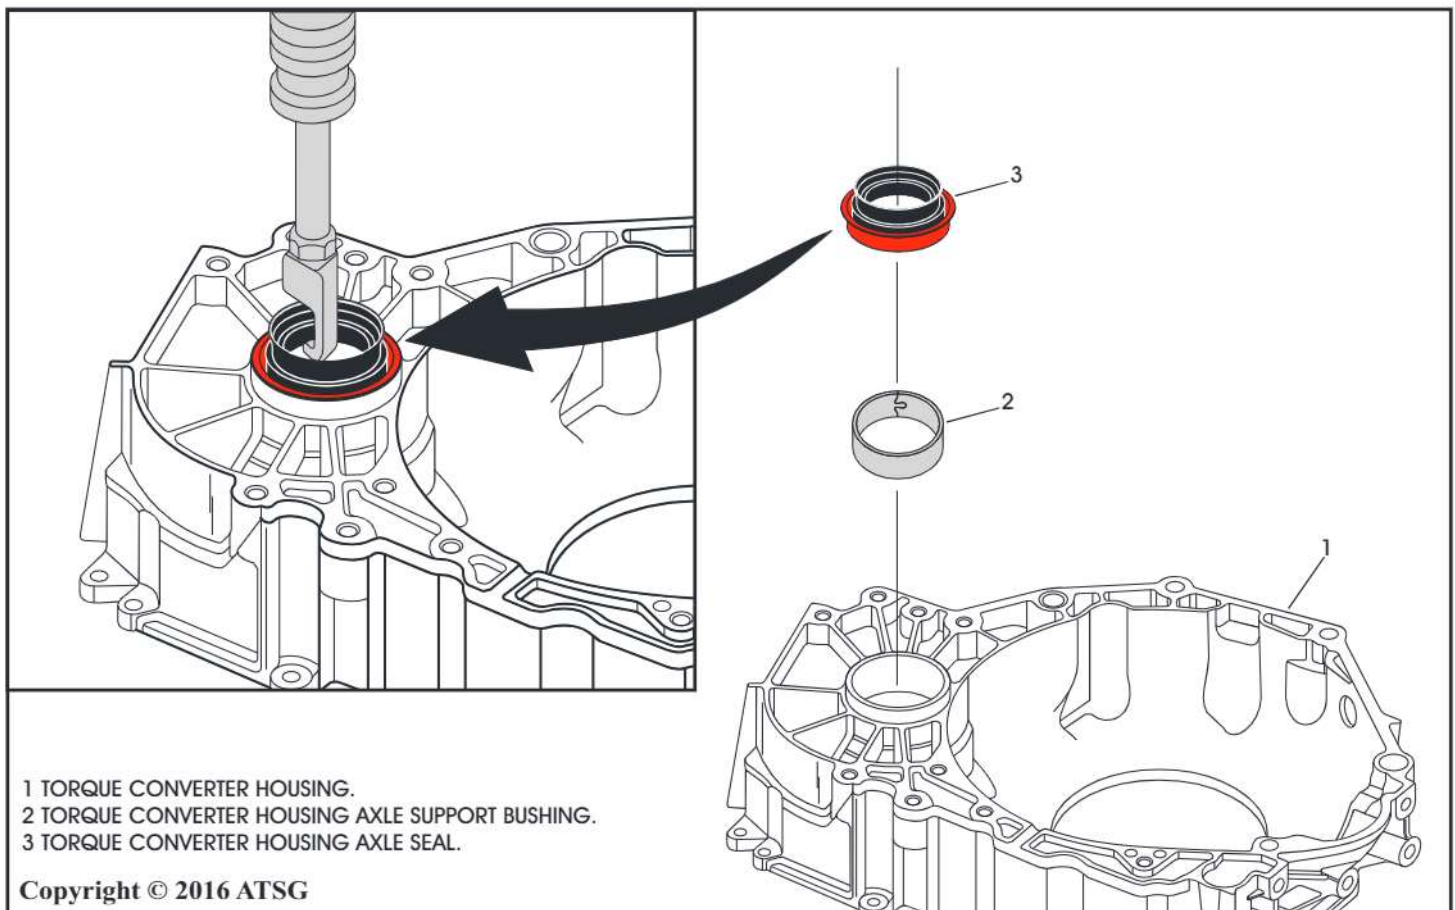

Figure 82
92. Remove and discard the torque converter housing axle seal using a slide hammer with a seal removal hook as shown in Figure 82.